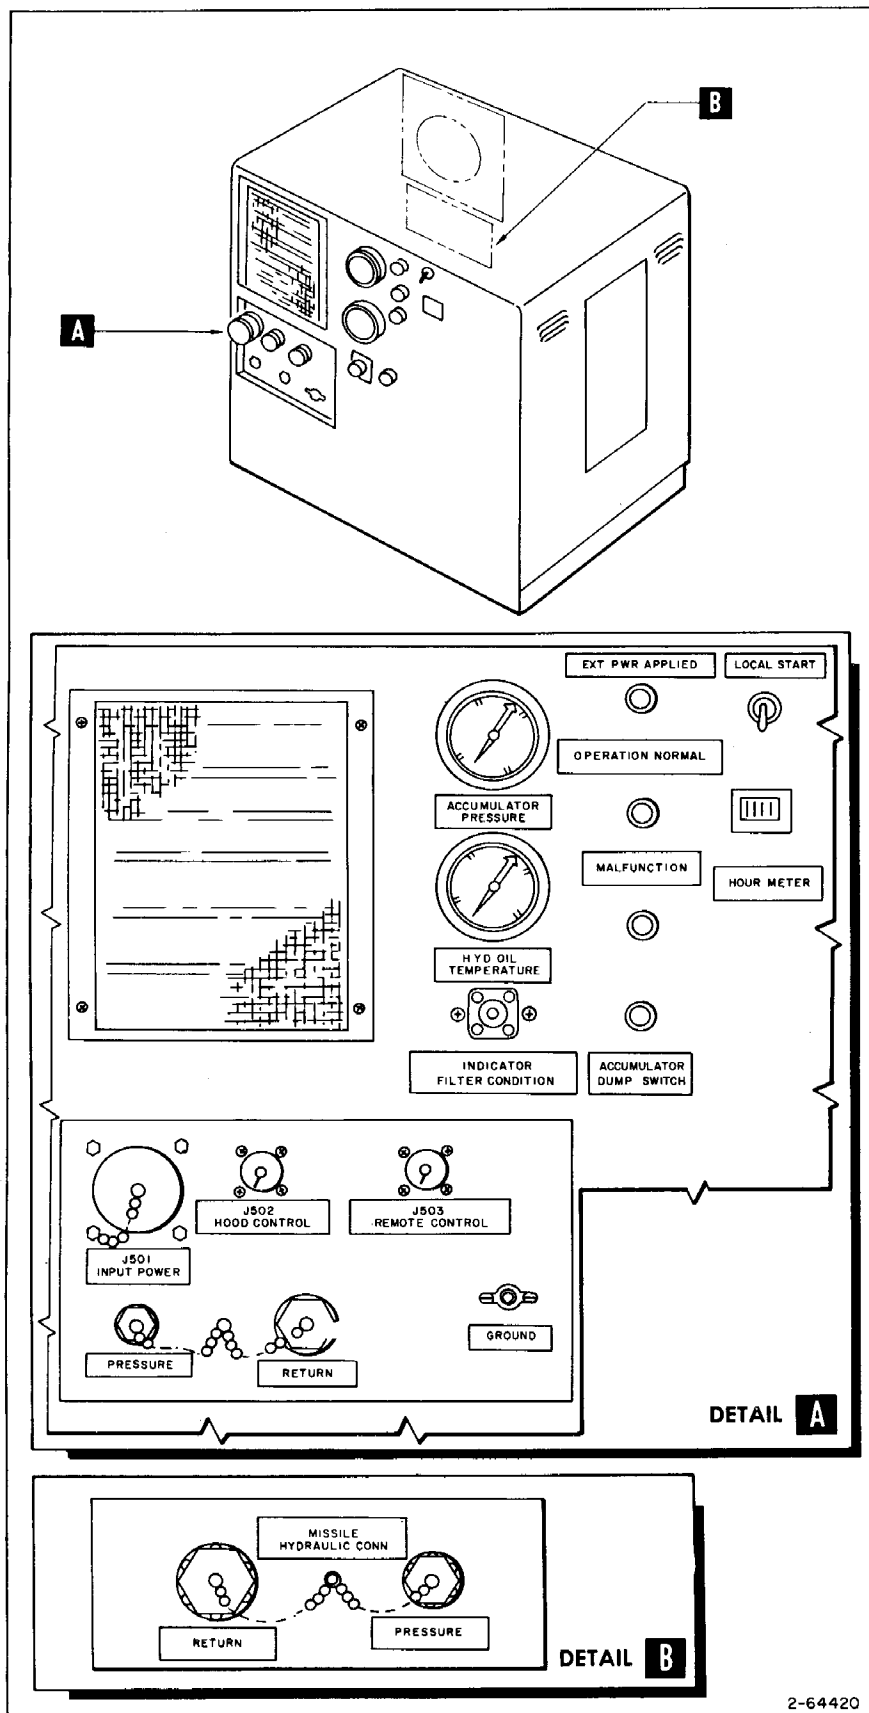

Figure 3-40 Hydraulic Cycling Unit
a. Check to insure that HCU (figure 3-40) ground cable is connected to HCU GROUND stud, and to HCU-NTCU skid.